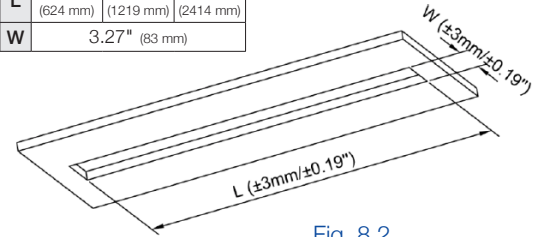

Fig. 8.2
2. Cut a rectangular hole in the mounting surface. (Fig. 8.2)